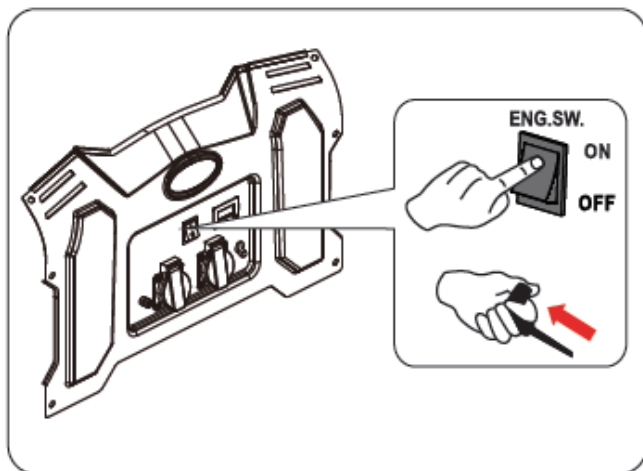

Fig. 8 - Recoil Start
- For **manual start**, turn the engine "ON/OFF" switch to the "ON" position. Pull the recoil handle (starter cord) slowly until resistance is felt, then pull rapidly (See Fig. 8).